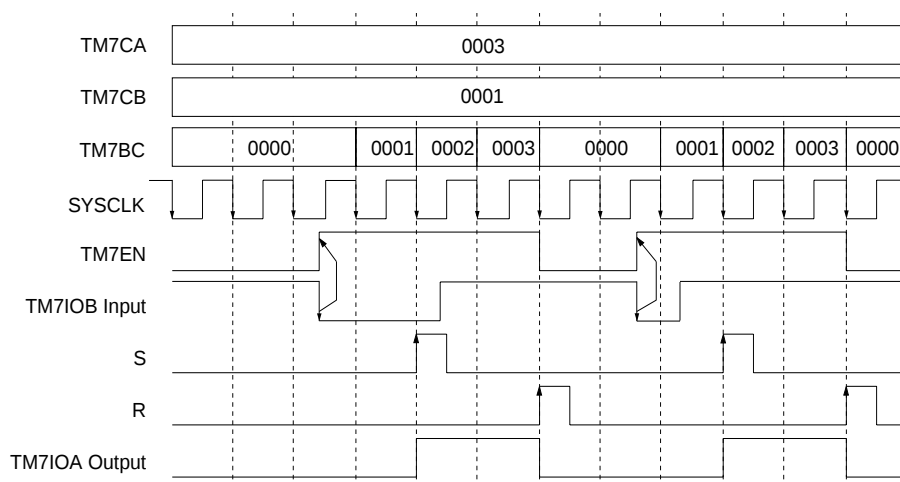

Figure 4-3-9 One-shot Pulse Output Timing
- (4) Set TM7NLD and TM7EN to 1 and 0 respectively. This enables TM7BC, T.F.F and RS.F.F.
- (5) Set TM7EN to 1 when TM7IOB rises. Counting starts at the beginning of the next cycle after TM7IOB rises.
Figure 4-3-9 shows the one-shot pulse output timing. Set TM7EN on the falling edge of TM7IOB and start counting from the next cycle. Before counting starts, TM7BC is 0, the initial value of TM7IOA is 0, and a reset (R) signal and a set (S) signal cannot be output. When counting starts, TM7BC changes from 0 to 1 and the S signal is output. TM7IOA becomes 1 and the pulse is output. TM7BC reaches 3, TM7BC resets and changes from 3 to 0. At the same time, the R signal is output and TM7IOA outputs 0. Because TM7ONE is set to 1, the TM7EN flag is also reset and counting stops. When TM7IOB rises again, TM7EN is set and the same operation is repeated. As a result, the one-shot pulse is output.